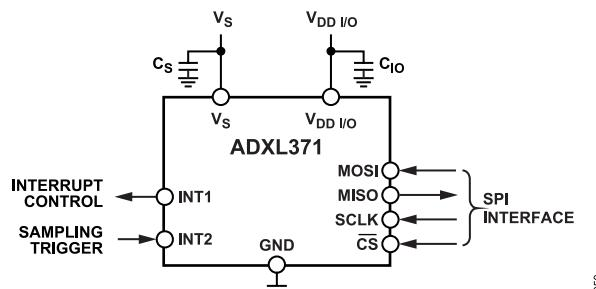

Figure 53. Using the INT2 Pin to Trigger Synchronized Sampling
**Figure 53** is an application diagram for using the INT2 pin as a trigger for synchronized sampling. Acceleration samples are produced every time this trigger is activated. Set the EXT\_SYNC bit in the TIMING register to enable this feature.